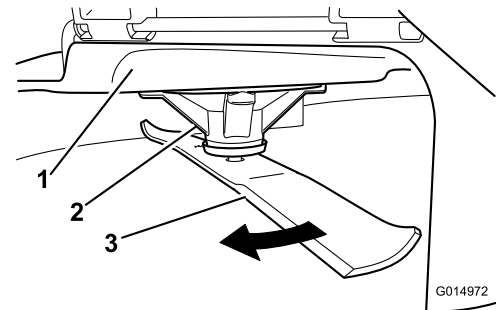

Figure 50
2. While wearing thickly padded gloves, or other adequate hand protection, slowly rotate the blade into a position that allows you to measure the distance between the cutting edge and the level surface the machine is on (Figure 50).